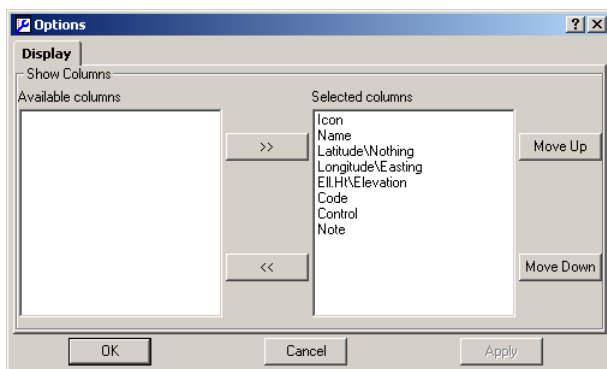

Figure 4-58. Options Window For Points Tab
- Options – opens the *Option* window (Figure 4-58) where you can change the columns order or hide any column.